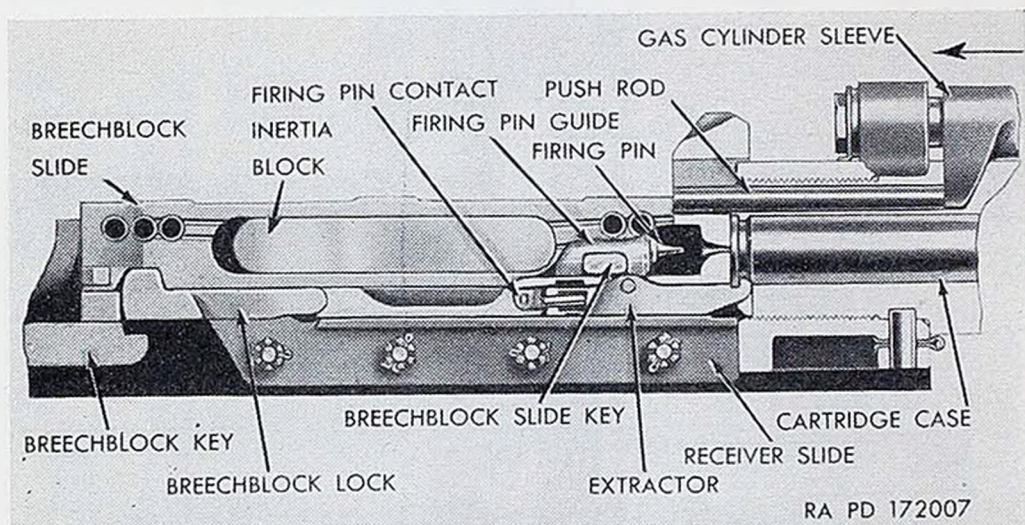

Figure 57. Unlocking of breechblock and retraction of firing pin.
c. As the sleeve is forced to the rear, the yoke on the sleeve contacts the two push rods, which, in turn, move the breechblock slides (fig. 57)
rearward, allowing residual gas pressure acting on the bolt to unlock the breechblock. The breechblock slides are connected to the breechblock slide key, which engages a slot in the bottom of the firing pin guide, and the latter, in turn, retracts the firing pin (fig. 57). The moment the breechblock is unlocked, it is forced to the rear by blow-back action, with a resultant drop of gas pressure in the tube. As the gas pressure drops, the gas cylinder sleeve spring expands and returns the sleeve and piston to the original position.